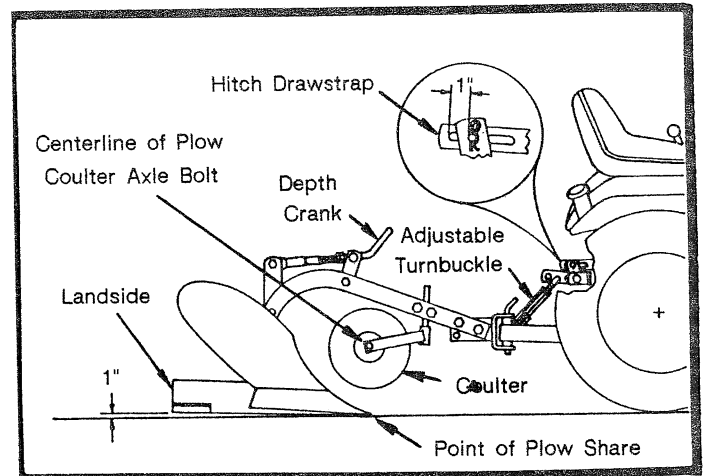

FIG. 5
### PREADJUSTMENT (Refer to Fig. 5 and 6)
- Adjust the Depth Crank of Plow until Point of Plow Share is on the ground and the rear of Plow Landside is approximately 1" off the ground. (Refer to Figure 5)